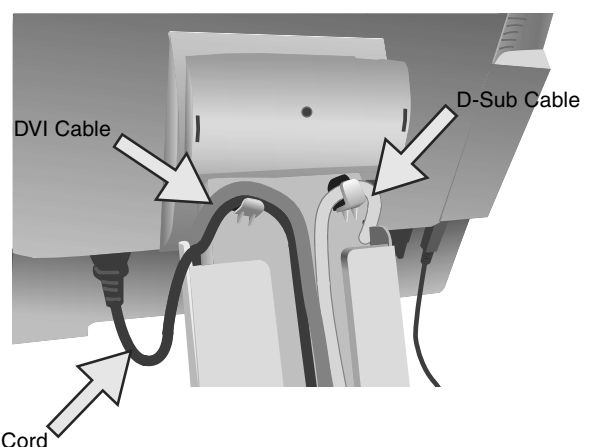

Figure C.2
5. Place power cord into the specific hooks indicated in **Figure C.2**.
6. Place the D-Sub signal cable into the specific hooks indicated in **Figure C.2**.
7. Place the DVI cable into the specific hooks indicated in **Figure C.2**.